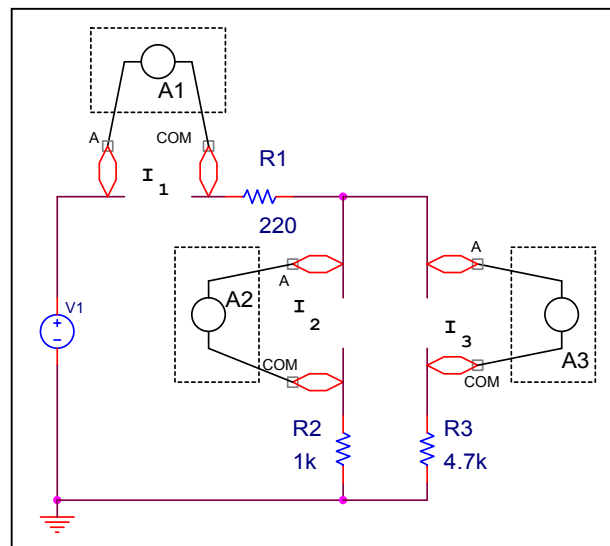

Figure 1.15 Current measurements
5. **[6 MARKS]** Calculate by hand in section 3 the currents shown in Figure 1.15 and listed in Table 1.3 (i.e., the currents $I_1 - I_3$) of the Lab Measurements Sheet and record the final answers in the column labeled “Theoretical Values” in Table 1.3. Show your calculations.
5.1 Figure 1.15 illustrates how ammeters should be connected to measure the currents $I_1 - I_3$ required to complete Table 1.3 of the Lab Measurements Sheet.